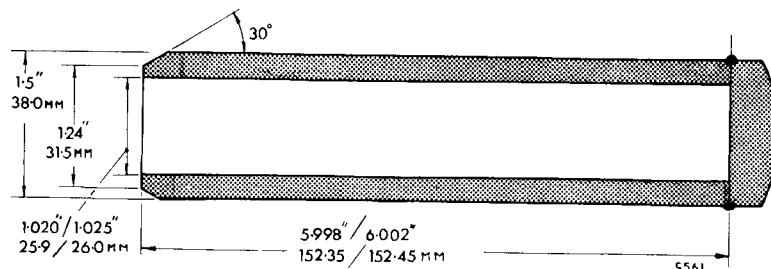

Fig. 10. Dimensions of tool for fitting flinger
Drive the flinger (44) on to the axle shaft using the tool shown on Fig. 10.